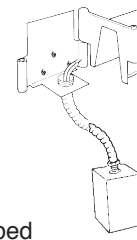

Fig. 2
Step 4: Install the first conduit connector (not provided) into the knockout area of the mounting bracket (Fig. 2). Tighten with adjustable wrench.
Step 5: Connect second conduit connector at the junction box (Fig. 2).